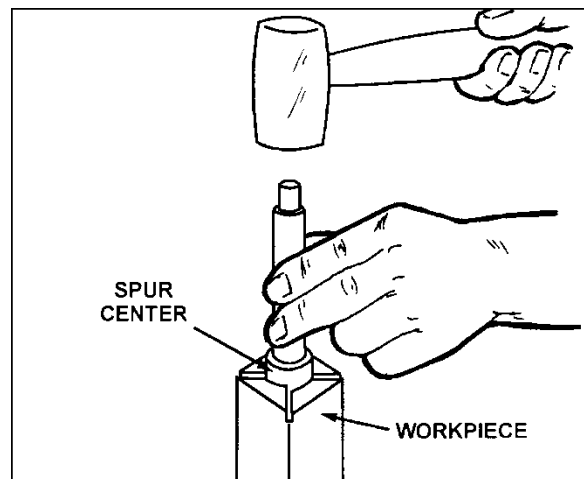

Figure 10-4
3. Drive the spur center about 1/4" into the workpiece, using a wood mallet or dead blow hammer as shown in Figure 10-4. Be careful that you do not split the workpiece. **Never use a steel face hammer and never drive the workpiece onto the spur center while it is mounted in the Lathe spindle.**